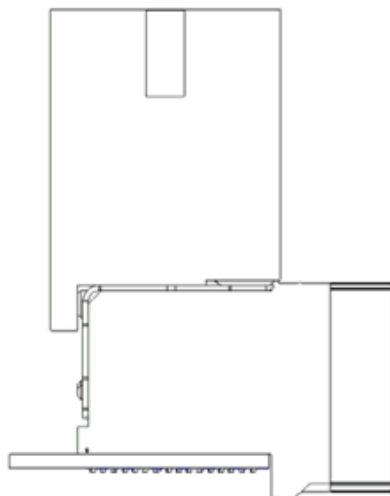
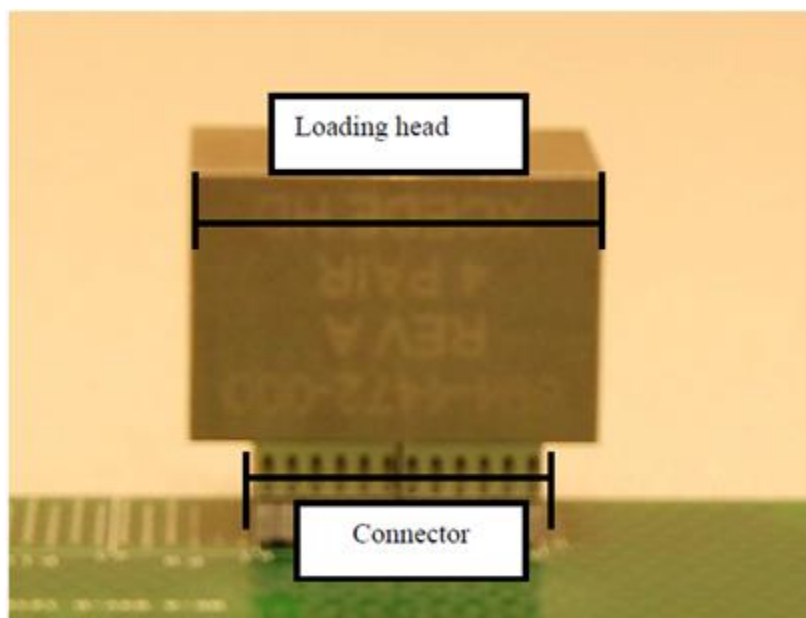
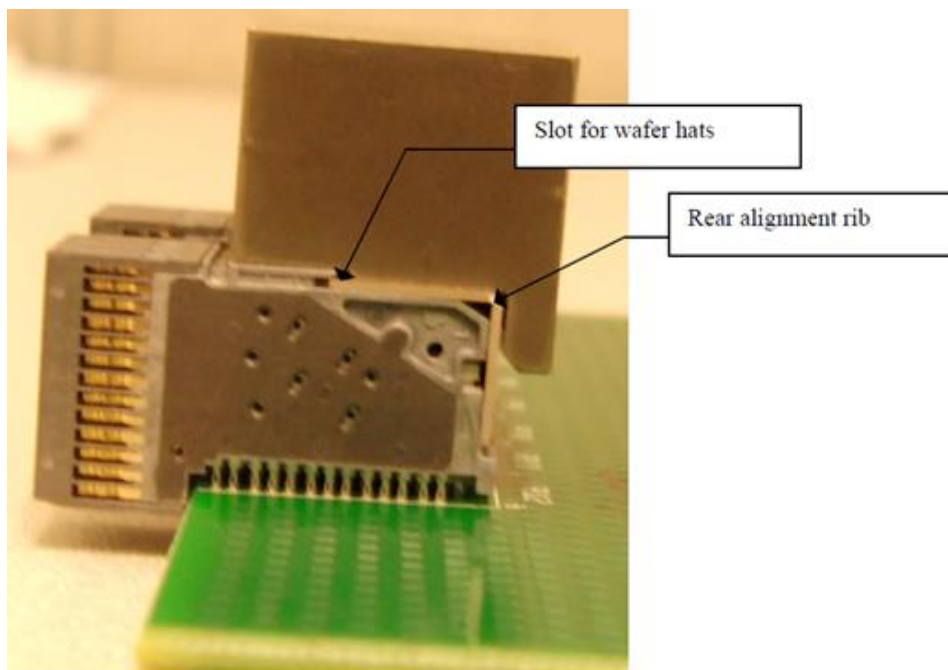
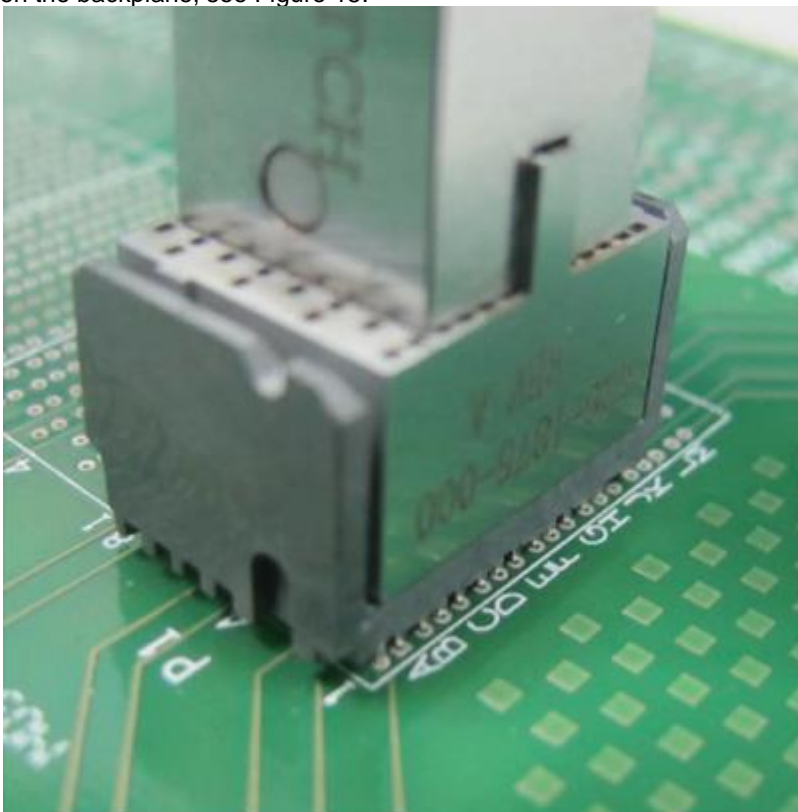

Figure 6: 4 Pair Loading Head and Module
Figure 7: Connector seating head extending over the edge of daughtercard connector
Figure 8: Clearance slot for wafer “retention hats” and rear alignment rib
Figure 15: Ensure the cavities in the seating head match up to the blades on the backplane module.
Step 8. Select the correct seating head based on the connector platform (3, 4, or 6 pair) and the length of the connector (see Figure 6). Ensure the seating head at a minimum is the same length as the connector (see Figure 7). Position the seating head directly on top of the connector, ensuring the clearance slot is over the wafer “retention hats” and the rear alignment rib is against the stiffener back (see Figure 8).
Step 8. Select the correct seating head based on the connector platform (3, 4, or 6 pair) and the length of the connector, see Figure 6. Position the seating head directly over the connector blades being sure to align the proper cavities in the seating head to the blades on the backplane, see Figure 15.